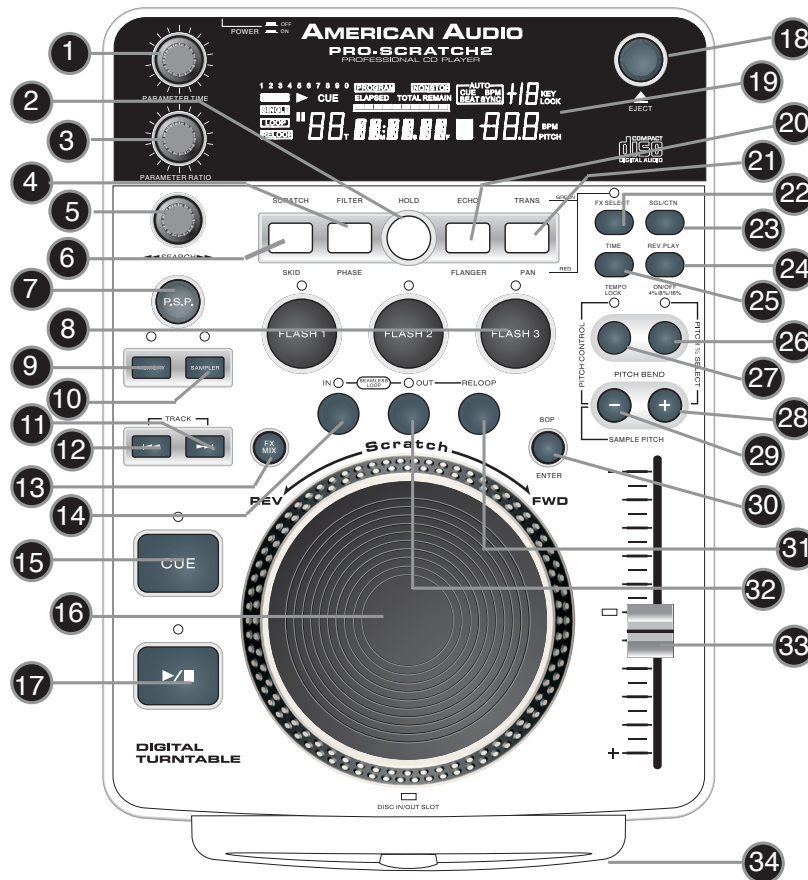

Figure 3
A. TOP UNIT CONTROLS (FIGURE 3)
- 8. FLASH BUTTONS 1-3** - These button are used to store either three (3) cue points or three (3) samples. Each Flash Button can store either a sample or a cue point.
- 9. MEMORY BUTTON** - This button allows you to program up to 3 cue points or three samples in to the three *FLASH BUTTONS* (8). The samples or cue point can then be recalled at any time even when the disk has been removed and replaced at a later time.